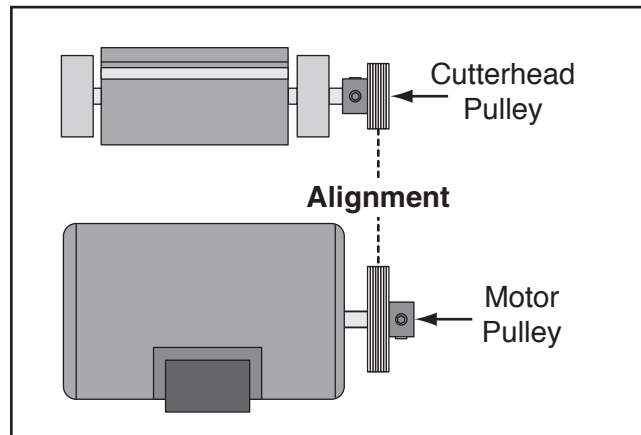

Figure 70. Proper pulley alignment.
6. Tighten set screws, replace belt, and repeat **Step 3** to verify proper pulley alignment. Pulleys should be parallel and aligned, as shown in **Figure 70**, when belt is properly tensioned.